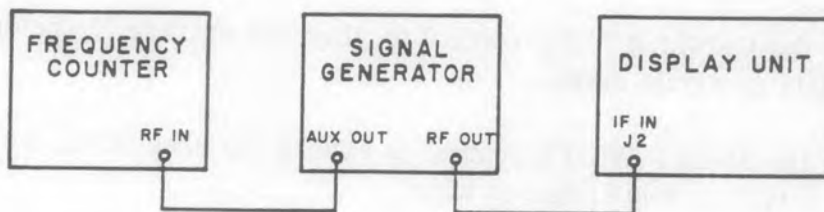

Figure 4-1. Test Setup, Signal Monitor Performance Tests
- (1) Connect the equipment as shown in Figure 4-1.